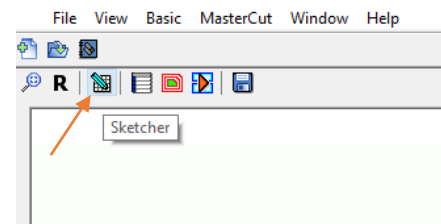

Figure 173
10. Next, enter the MasterCut Sketcher with  (Figure 173) or using the **-S-** shortcut on the keyboard.